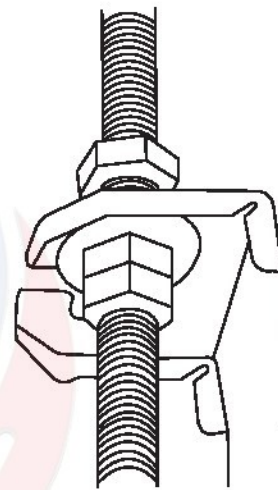

Fig. 4.8
8. Mount the indoor unit with at least two people to lift and secure it. Insert suspension bolts into the unit's hanging holes (See Fig. 4.8).